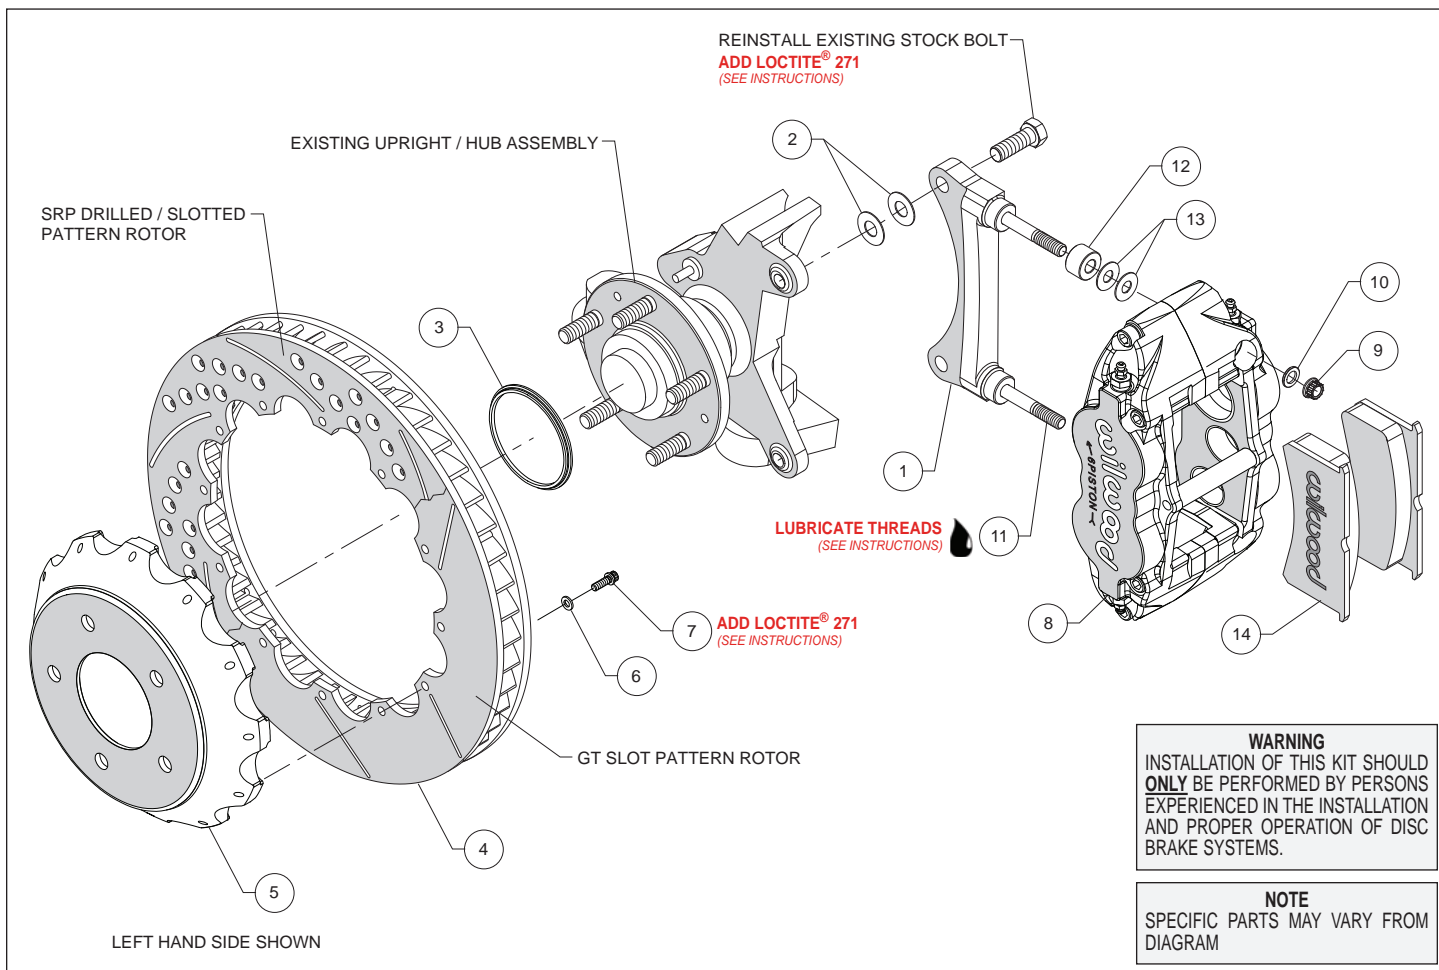
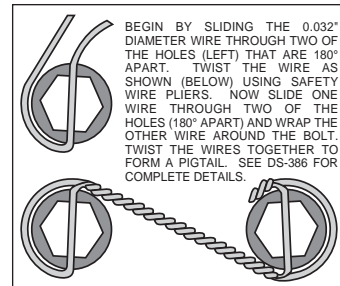

Figure 1. Typical Installation Configuration
Figure 3. Safety Wire Diagram
**Assembly Instructions** (numbers in parenthesis refer to the parts list and Figure 1 on the preceding pages):
- The caliper mount bracket (1) should initially be installed with clean, dry threads on the mounting bolts. Orient the bracket as shown in Figure 1, and install using saved Original Equipment Manufacturers (OEM) mounting bolts and shim washers (2). Initially place two shims (2) on each bolt between the bracket and upright, Figure 1. Temporarily tighten the mounting bolts. **NOTE:** The bracket must fit squarely against the mount bosses on the upright. Inspect for interference from casting irregularities, machining ridges, burrs, etc. Later, after the caliper alignment has been checked, the mount bolts will be secured using red *Loctite*® 271.
- Orient the rotor (4) and the hat (5) as shown in Figure 1 and Photo 1. Attach rotor to hat using bolts (7) and washers (6). Using an alternating sequence, apply red *Loctite*® 271 to the threads and torque bolts to 155 in-lb. For an added measure of security, the bolts may be safety wired using standard 0.032 inch diameter stainless steel safety wire as shown in Figure 3. Please refer to Wilwood's data sheet DS-386 (available at [www.wilwood.com/Pdf/DataSheets/ds386.pdf](http://www.wilwood.com/Pdf/DataSheets/ds386.pdf)) for complete safety wire installation instructions.
- Slide the rotor registration adapter (3) onto the axle register on the axle hub with the smaller O.D. facing outward, Photo 2. Slide the hat/rotor assembly onto the axle hub. **NOTE:** The hat must fit flush against the axle hub flange or excessive rotor run out may result. Install three lug nuts (finger tight) to keep the hat/rotor assembly in place while continuing with the installation.
- NOTE:** This kit contains distinct right and left hand calipers that must be mounted in a specific direction, as described below. Lubricate the caliper mounting studs (11) with lightweight oil. Initially place two .035" thick shims (13) and spacer (12) on each stud as shown in Figure 1 and Photo 3. With the bleed screws pointing up, mount the caliper (8) onto the bracket (1) using lock nuts (9) and washers (10), Figure 1 and Photo 4. Ensure that the caliper is mounted so that the largest pistons are at the rotor exit end of the caliper, in relation to the direction of rotor rotation. Temporarily tighten the lock nuts and view the rotor through the top opening of the caliper. The rotor should be centered in the caliper, Photo 5. If not, adjust by adding or subtracting shims (2) between the bracket and the upright. Always use the same amount of shims on each of the two mounting bolts. Once the caliper alignment is correct, remove the bracket mounting bolts one at a time, apply red *Loctite*® 271 to the threads, and torque to manufacturer's specifications.